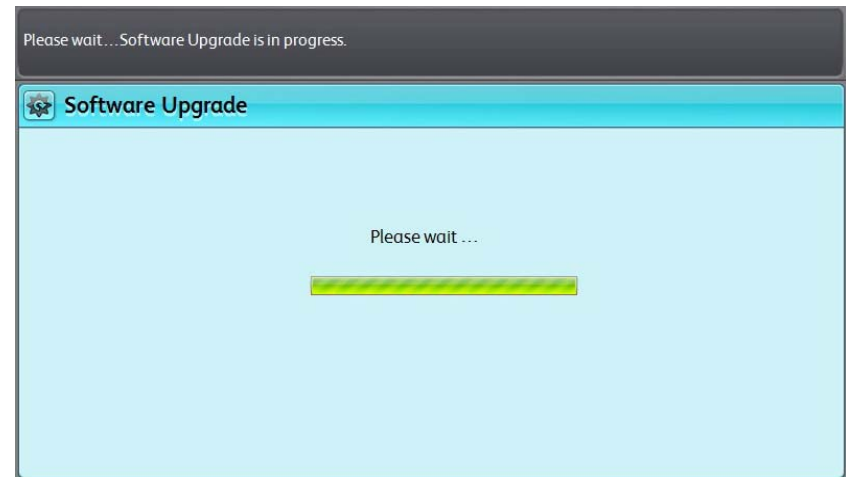

Figure 2 Upgrade start screen
7. The Software Upgrade start screen appears, Figure 2.
9. The upgrade start screen is displayed, Figure 2.
NOTE: Occasionally a USB Flash drive is incompatible with the system and the upgrade start screen, Figure 2 is continually displayed. If after 10 minutes the screen has not changed, replace the USB flash drive with a Xerox approved model. Restart the process.